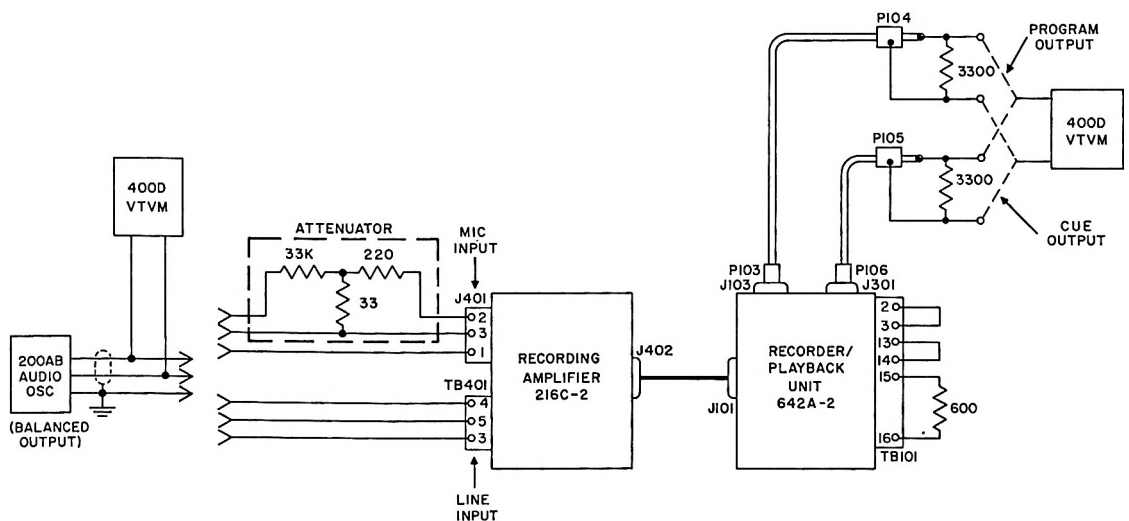

Figure 5-1. 216C-2 Test Setup
- c. Attenuator (see figure 5-1).
Connect the 216C-2 Recording Amplifier, 642A-2 Recorder/Playback Unit, and test equipment as shown in figure 5-1. Apply power to all units. Allow a 2-minute warmup period before making any tests. Remove the top covers from the 216C-2 and 642A-2.
- a. Connect the balanced audio oscillator output to the LINE INPUT terminals on TB401, as shown in figure 5-1.
- b. Connect the HP-400D vtm to the program output, as shown in figure 5-1.
- a. Connect the 400D vtm to the program output, as shown in figure 5-1.
- a. Connect the balanced audio oscillator output, through the attenuator, to the microphone input at J401, as shown in figure 5-1.
- b. Connect the 400D vtm to the program output, as shown in figure 5-1.